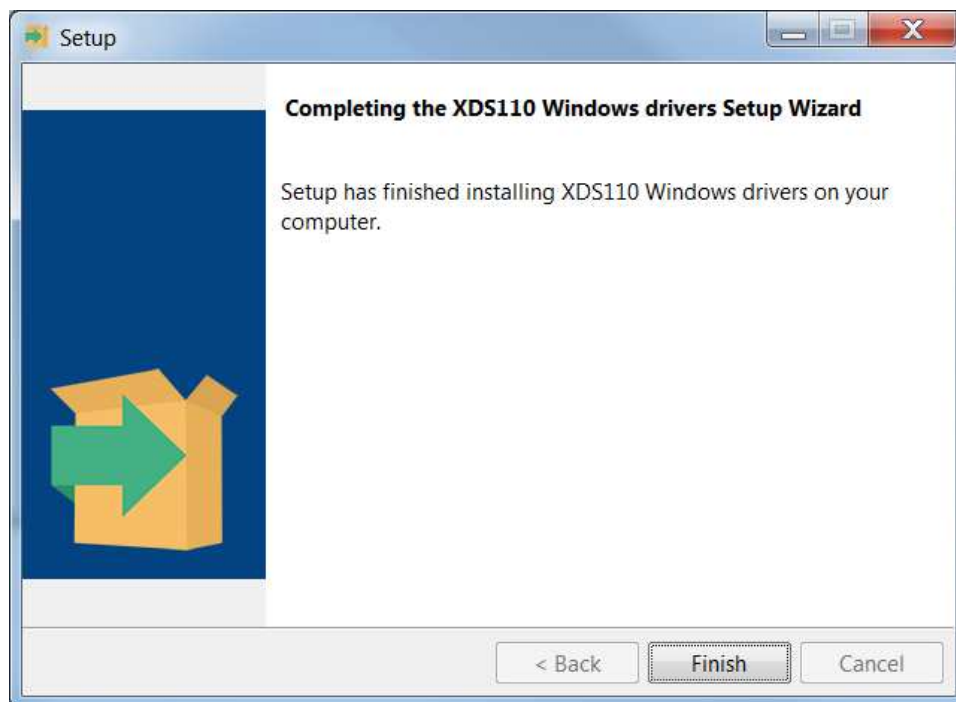

Figure 1-10. Complete Installation
4. Click Finish when installation is done, as shown in Figure 1-10.